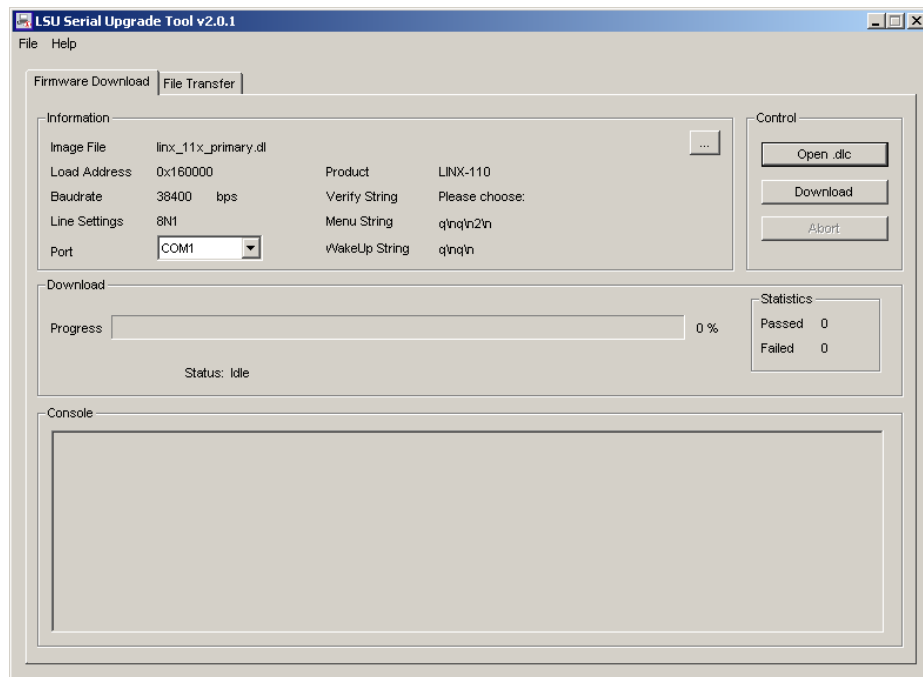

Figure 292: LSU Serial Upgrade Tool in Idle Mode.
1. Double click on the *.dlc file that comes with the new firmware package. This should start the LSU Tool and load the firmware image referenced in the dlc file. Please note that the dlc file and the dl file must be stored in the same folder. The start window of the LSU tool is shown in Figure 292.